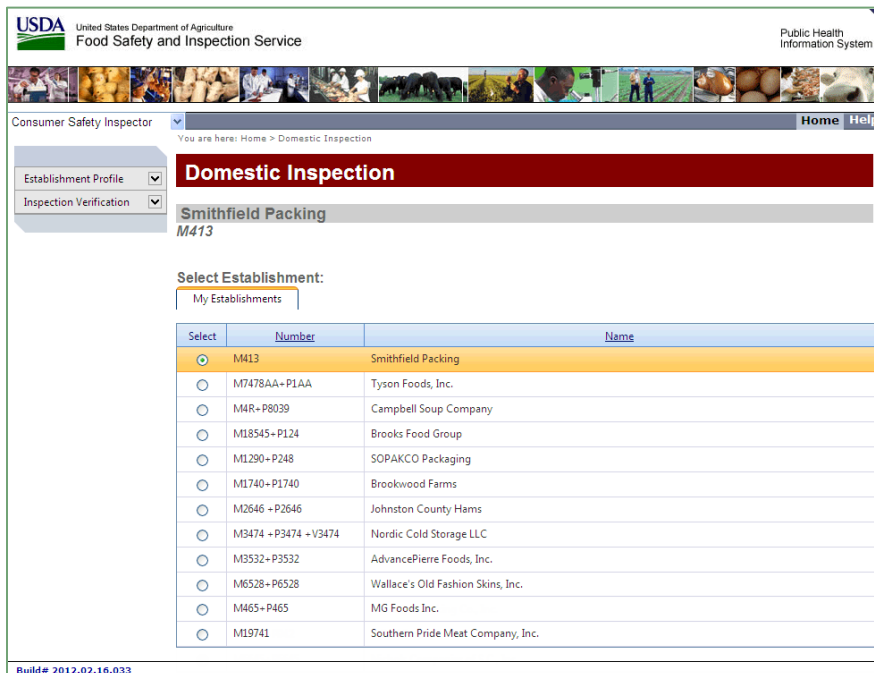

Figure 11: Select Establishment Window
2. When you use the PHIS Disconnected State application as a CSI, you have two options available from the left Navigation menu: Establishment Profile and Inspection Verification (see Figure 11).